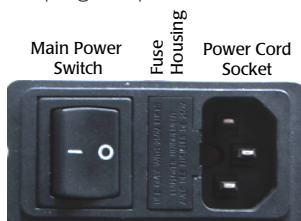

Fig. 1—Unplug the power cord to access the fuse housing release.
The instrument contains one fuse, located in the fuse holder on the back panel. If necessary, replace the fuse with the type and rating specified on the back panel. Verify that the fuse contained in the fuse holder matches the desired line voltage. A spare fuse is provided in the fuse housing (Fig. 1).
1. Turn the main power switch off (I).
2. Unplug the power cord from the power cord socket on the back of the unit (Fig. 1).